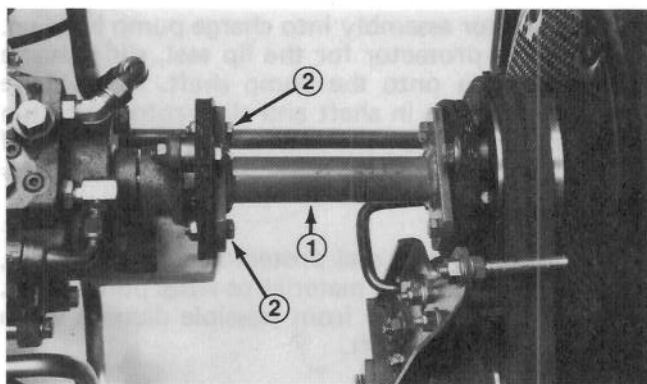

Figure 76
2. Remove capscrews, locknuts and spacers securing drive coupling assembly between engine pulley and transmission hub (Fig. 76). Slide drive coupling assembly from between the hub and pulley.
2. Slide two capscrews through transmission hub and install locknuts onto the capscrews (Fig. 76). Tighten capscrews and locknuts.
3. Secure other end of rubber coupling to engine pulley with capscrews, lockwashers and flatwashers (Fig. 76).